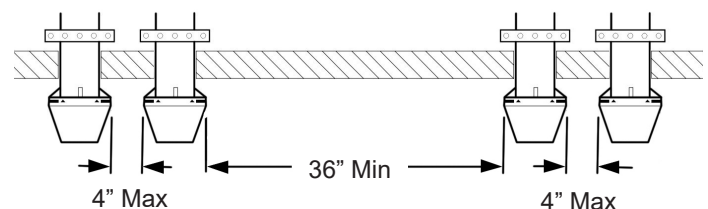

Figure 15. Multiple Concentric Terminations
2. Multiple concentric terminals must be installed with a minimum horizontal distance between adjacent terminals of at least 36 inches (90 cm), or alternatively, a maximum distance of 4 inches (10 cm) (for up to 2 terminals). For example, if 4 concentric terminals are installed, they could either each be installed at least 36 inches (90 cm) apart, or grouped into 2 pairs, with the terminals in each pair less than 4 inches (10 cm) apart and the groups separated by more than 36 inches (90 cm) See Figure 15.